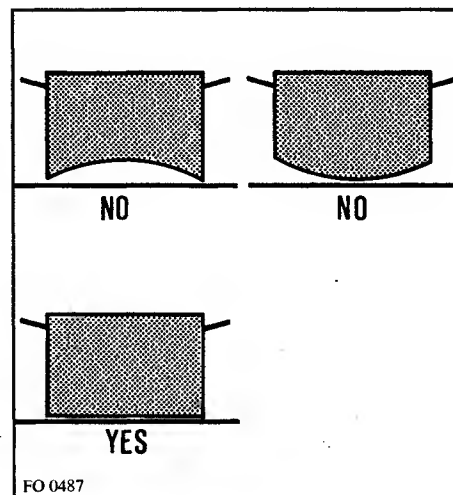

Fig. 5
- They should have a flat base to ensure good contact with the plate (Fig. 5). This is particularly important when using pans for high temperature frying or pressure cooking.